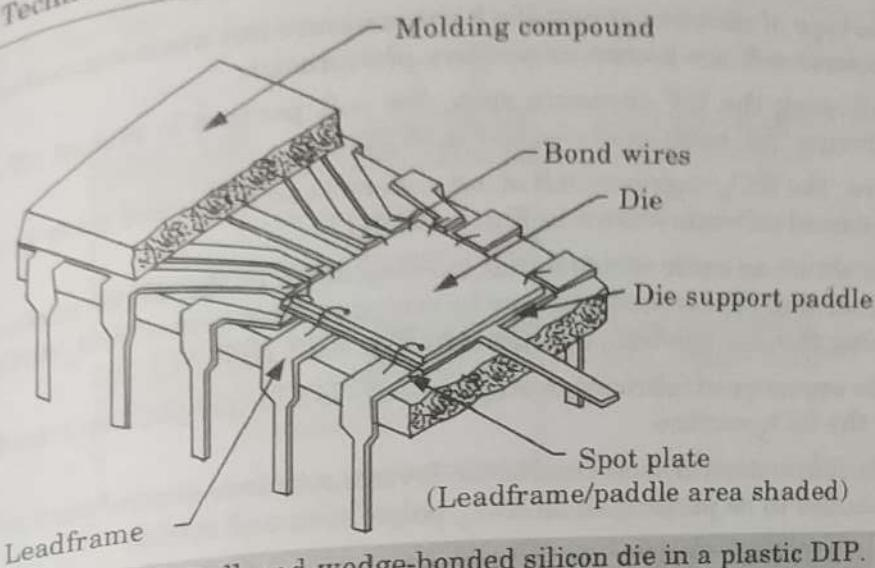

Fig. 5.21.1. Ball-and-wedge-bonded silicon die in a plastic DIP.
1. Fig. 5.21.1 shows a cross section of a plastic DIP. The two basic types of molded devices are postmolded and premolded devices.